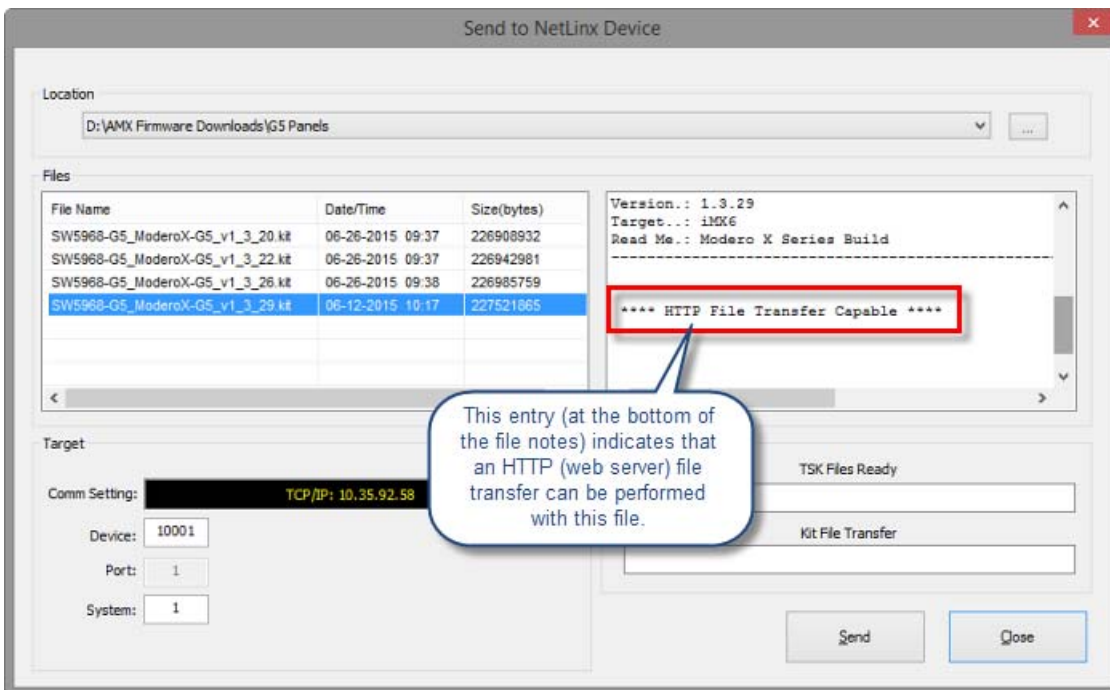

FIG. 135 NetLinX Studio - Send to NetLinX Device dialog
Look for "**** HTTP File Transfer Capable ****" at the end of the file (see FIG. 135 on page 158).
6. In the *Files* window, click to select the G5 *.kit file to transfer (FIG. 135):